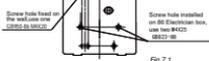

Fig. 7.1
3. Use two M4X20 GSD03-06/SAK20-08 to install the back cover on the electric control box, and use one GSD03-06/SAK20-08 screw to fix on the wall (Fig. 7.1).